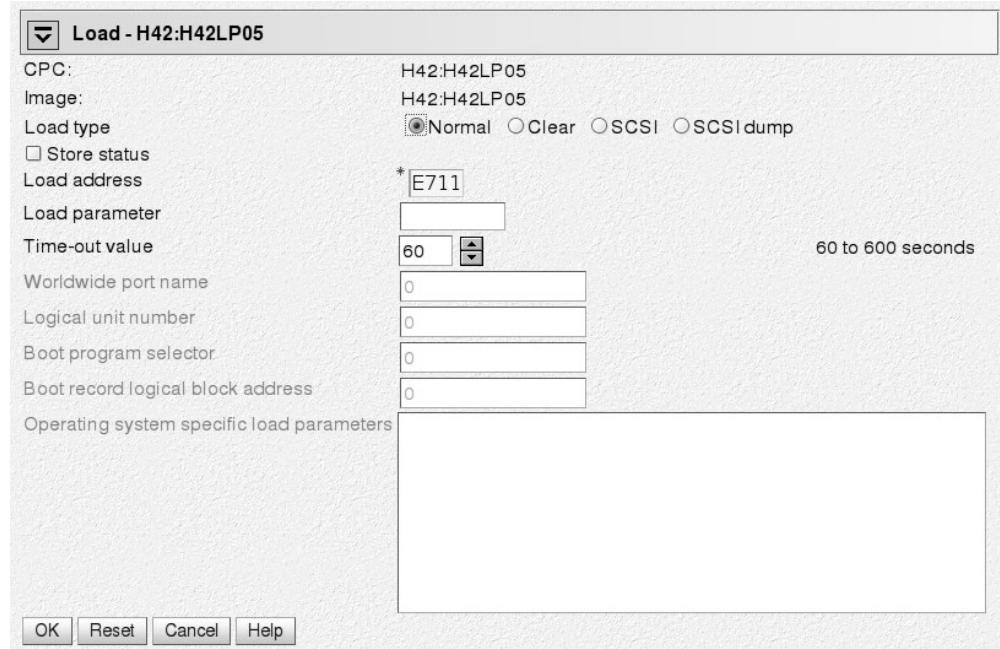

Figure 65. Load panel for booting from tape or DASD
- a. Select **Load type** "Normal" (see Figure 65 on page 385).
- a. Select **Load type** “Normal” (see Figure 65).